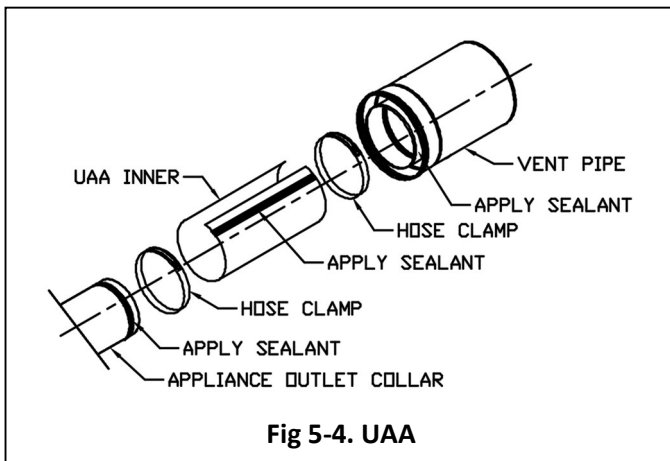

Fig 5-4. UAA
1. Align the AF pipe with the appliance outlet (See Fig. 5-4)
3. Wrap the UAA inner liner around the outside surface of the flue outlet and AF inner. The seam of the UAA should overlap and be sealed with sealant from step 2c. (See Fig. 5-4)